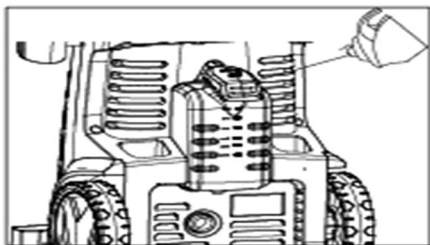

Fig. 7
- Pour the detergent into the container (Fig. 7). Set the adjustable spray lance to low pressure mode.